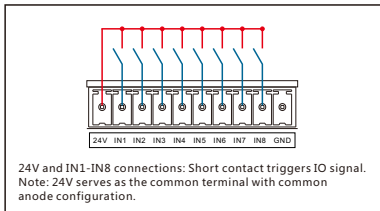

Figure 6. Dry Contact Wiring Diagram
2. Curtain interface: IN1-IN8 input 24V is the common end, a total positive, 24V, GND output voltage, (see Figure 6)